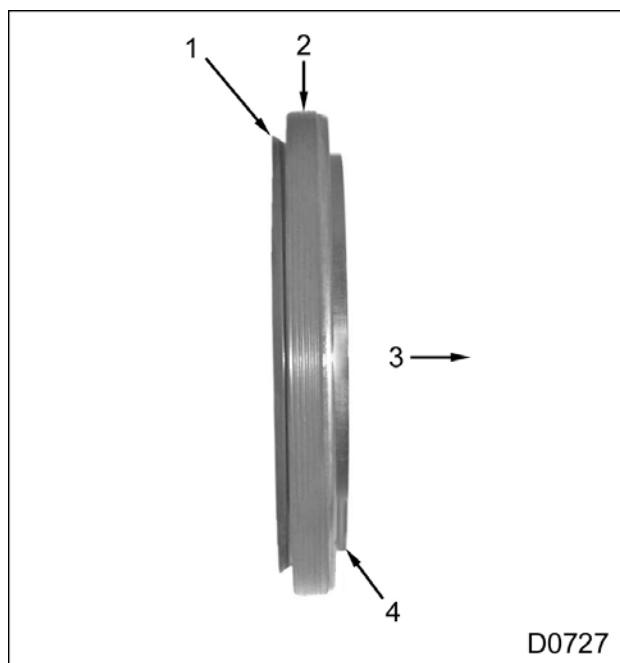

Figure 581 Orientation of rear main oil seal and wear sleeve
- Position seal (Figure 581) and slide onto Rear/Wear Sleeve Installer.